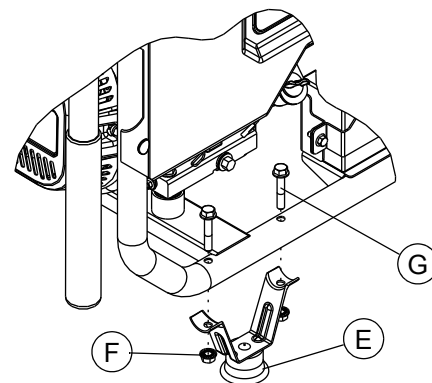

Figure 2-2. Frame Foot Assemblies
2. Install the Frame Foot Assemblies as shown (Figure 2-2).